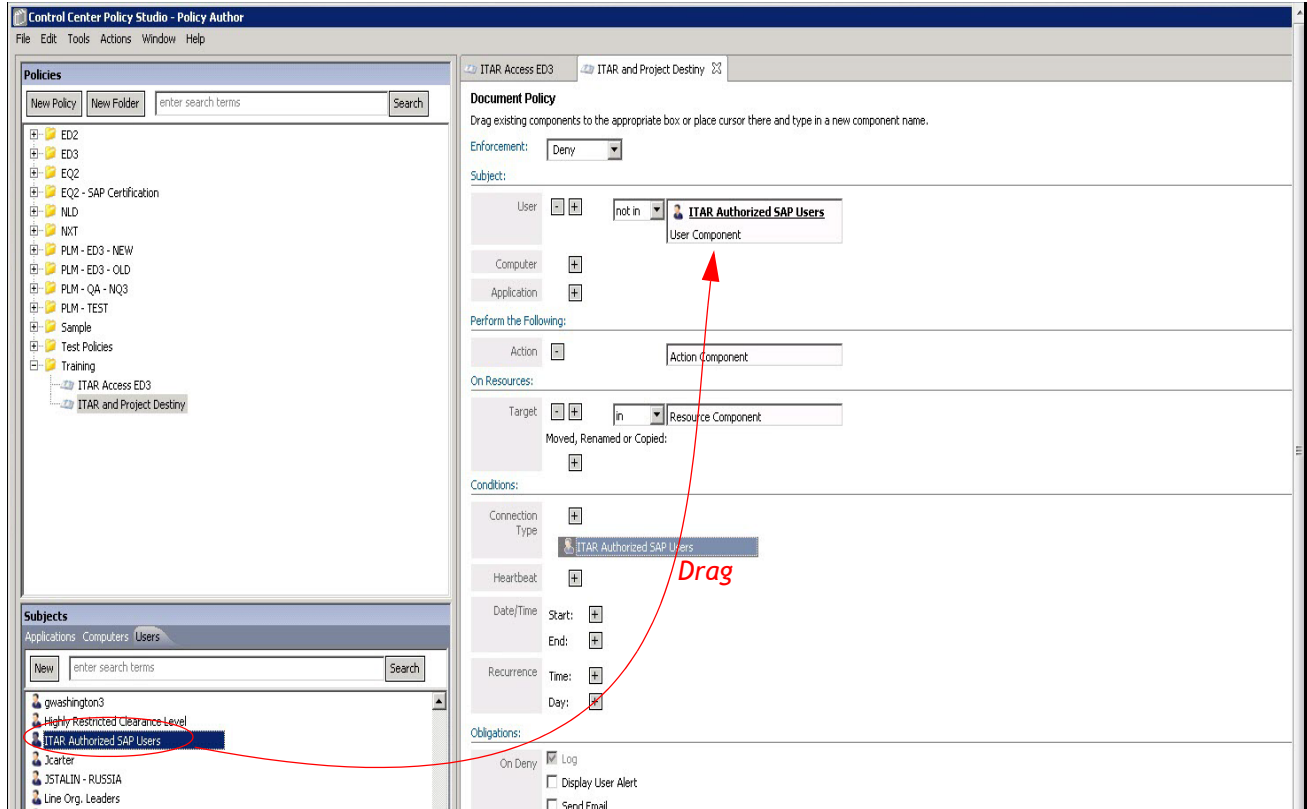

Figure 6-18: Adding a User Component
- After the new User component is created, select it from the list of components and drag it into the User policy field (as shown in Figure 6-18).